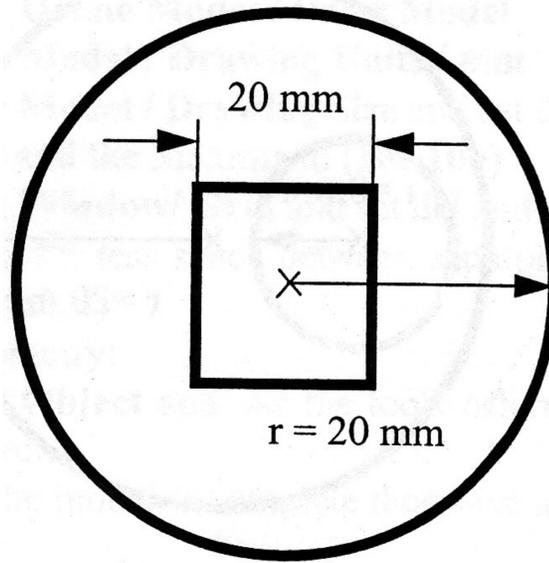

Figure 1: 2D slice of coaxial cable with a square conductor within a circular dielectric. The copper center is at 10V while the outer edge of the Teflon is 0V.
- Using ANSYS maxwell 2D, construct the geometry seen in figure 1. The inner square is copper. The rest of the space within the circle is Teflon.